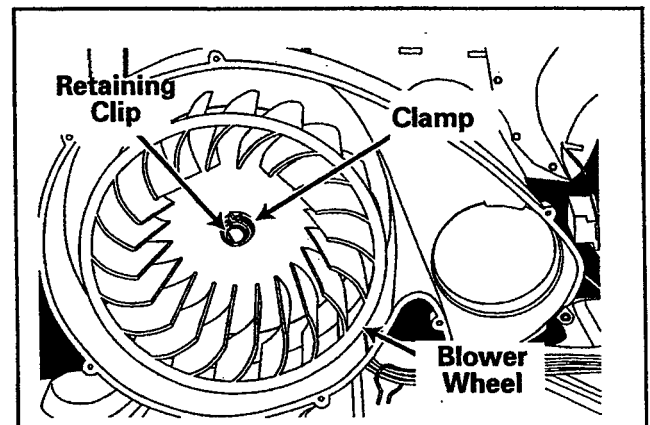

Figure 2-89
The blower wheel is attached directly to the motor shaft behind the blower cover. When replacing a blower wheel, always replace the clamp (*Figure 2-89*).
5. Remove clip retaining ring (*Figure 2-89*).